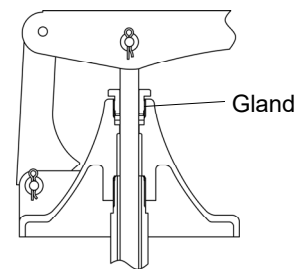

Fig.4
- If the lever becomes stiff to move, loosen the gland a little, apply a few drops of oil to it and retighten. (Fig.4)